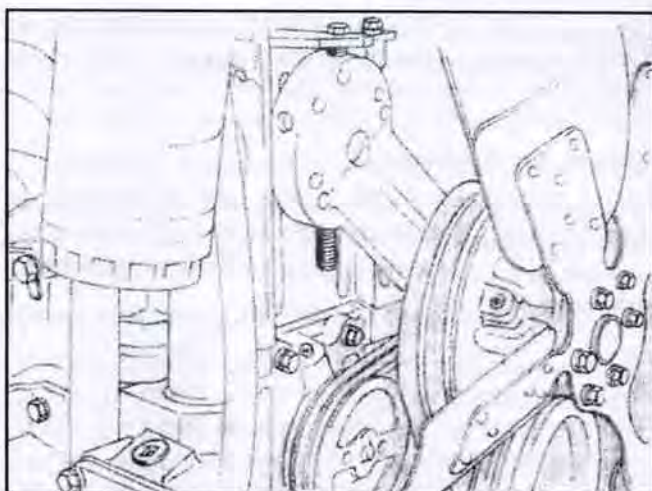

Fig. 2-6, (OM1016I). Fan hub installation, NTC-350 FFC
5. Tighten NH/NT Engines locknut to 400 to 450 ft-lbs [542 to 610 N•m]; then back off 1/2 turn. Tighten the four 1/2 inch capscrews. Fig. 2-6, on NTC-350 FFC Engines to 75 to 85 ft-lbs [101 to 115 N•m].